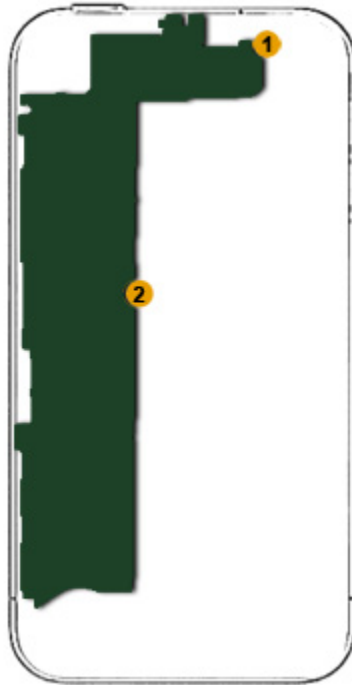

Figure 7
- In order to free the motherboard from the body of the phone, you will have to remove two more screws. The locations of these screws are shown by two small orange circles in the figure 7. You will have to use a flathead screwdriver to remove the screw number 1 and small Phillips screwdriver for screw number 2. Once you have the screws removed you can lift the motherboard up carefully and put it aside.
- The next step is to unscrew the ten screws from the sides and corners of the phone body. There will be 3 large screws each (with washers) on the two sides of the phone body and one small screw in each corner. The location of these screws is indicated in the above figure 7. The gray arrows indicate the locations of large screws while the orange arrows point to the locations of small screws.